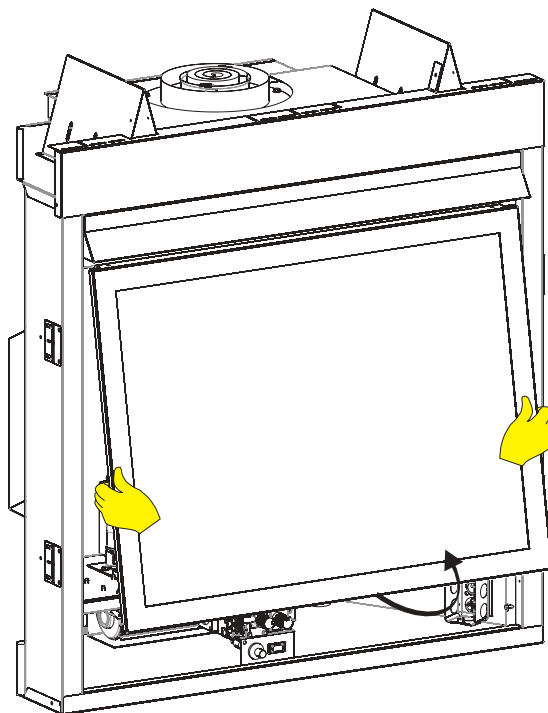

Figure 83
5. Move your hands to the sides of the glass frame and lift it up and away from the fireplace. See Figure 83.